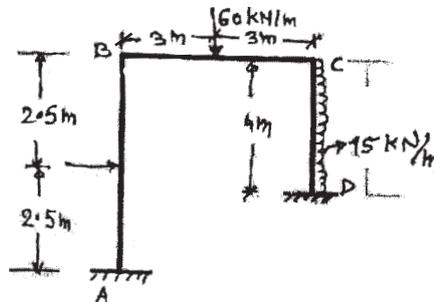

Fig. 8
- Q8)** Analyse the frame shown in Figure 8 by Flexibility Matrix Method and draw BMD and SFD. Assume flexural rigidity EI constant for all members. [16]